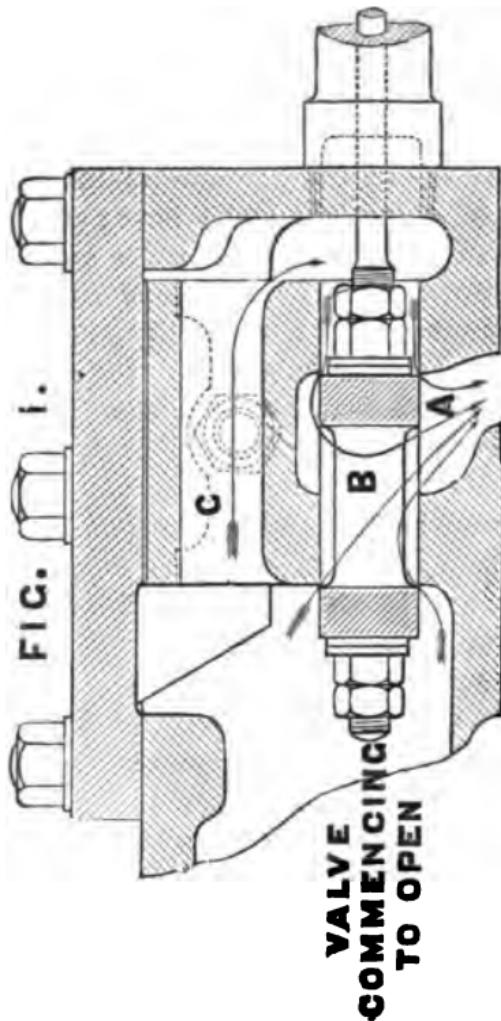
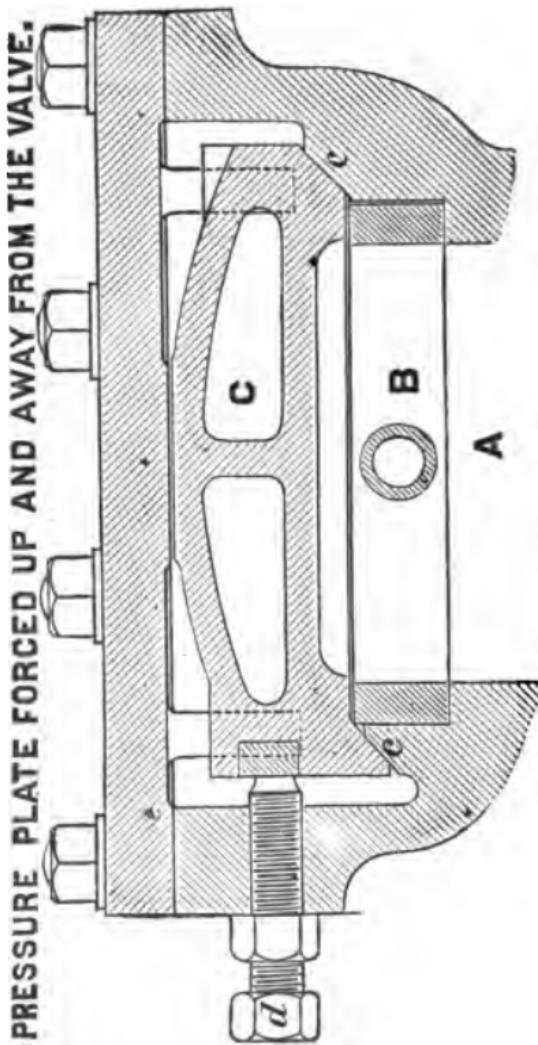

FIG. 118. PORTER-ALLEN VALVE.
FIG. 120. PORTER-ALLEN VALVE.
A. By means of the equilibrium plates, which are shown in Figs. 118 to 121 inclu-
sive, which give sections through the steam chest at one end of the cylinder. Figs. 118 and 119 are horizontal sections showing the four opening valves ; first, when commencing to open (the arrows indicating the course of the steam), second, at the extreme point of the lap. Figs. 120 and 121 are vertical sections showing the pressure plate ; first, when by turning the bolt *d* forward, it is forced up the inclines and away from the valve, leaving a bad leak ; and second, when it is let down to its proper working position.